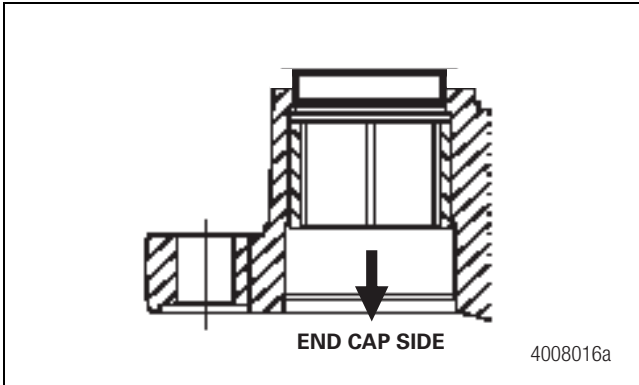

Figure 5.34
3. Use Meritor tool MST 1000 to drive out the bushing from the housing. Figure 5.33. Refer to Section 10 for tool details. The bushing must be pushed out in the direction of the end cap side of the bore. Figure 5.34.